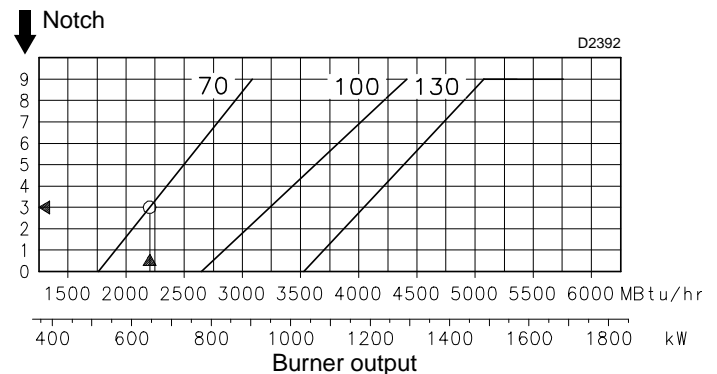
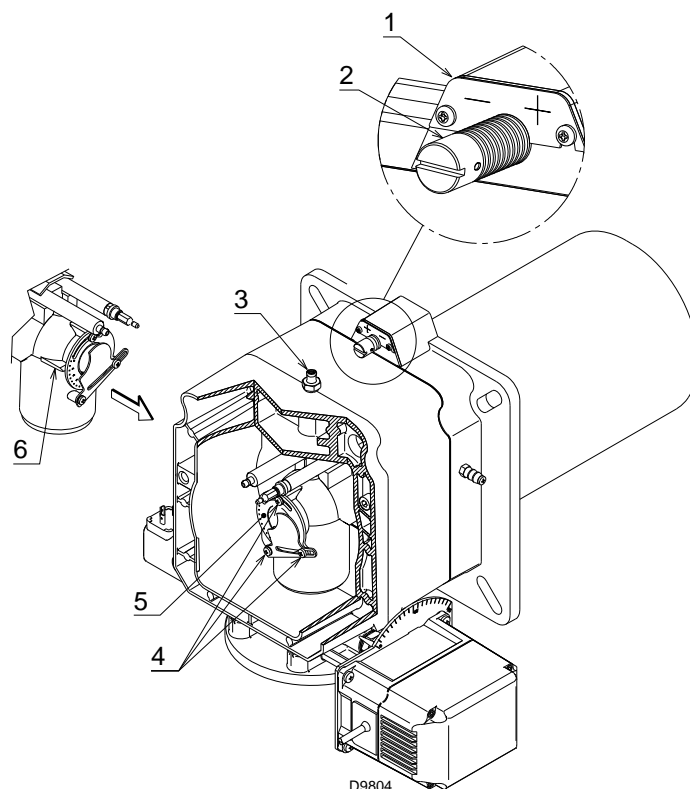

Fig. 14
Fig. 15
In the diagram of Fig. 14, find the notch at which to adjust both air and central gas/air.
Turn screw 4)(Fig. 15) until the notch identified is aligned with the front surface 5)(Fig. 15) of the flange.
To facilitate adjustment, loosen the screw 3) (Fig. 15), adjust and then lock.
- Loosen the 3 screws 1)(Fig. 15) and turn ring 2) until the notch identified is aligned with index 3).
If we consult diagram (Fig. 14) we find that for this output, air must be adjusted using notch 3 (Fig. 15).
Diagram (Fig. 14) shows the ideal settings for the ring 2)(Fig. 15). If the gas main pressure is too low to reach the maximum output operation pressure indicated on page 20, and if the ring 2)(Fig. 15) is not fully open, it can be opened wider by 1 or 2 notches.
Continuing with the previous example, page 20 indicates that for burner RS 100/E with output of 2200 MBtu/hr a pressure of approximately 2.36 "WC is necessary at test point 6)(Fig. 15).
If the pressure cannot be reached, open the ring 2)(Fig. 15) to notch 4 or 5.
- Ring nut 2) (Fig. 15) adjusted as in the diagram of Fig. 14
- Ring nut 2)(Fig. 15) adjusted as in the diagram of Fig. 14